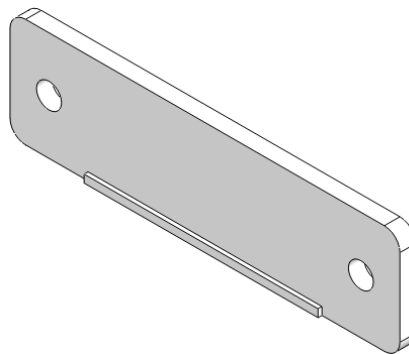

Fig. 1 The tag to be drawn using SolidWorks.
1. Draw the tag in 3D as shown in Fig. 1 using SolidWorks according to the 2D engineering drawing provided in the Appendix. Please remember to follow the dimensions given in the drawing. The unit is mm.